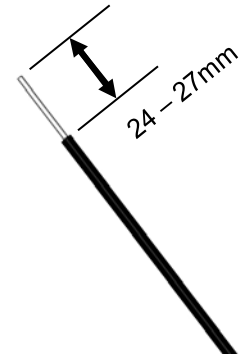

Fig 6
7. After stripping, the fibers should appear as they do in Figure 6.